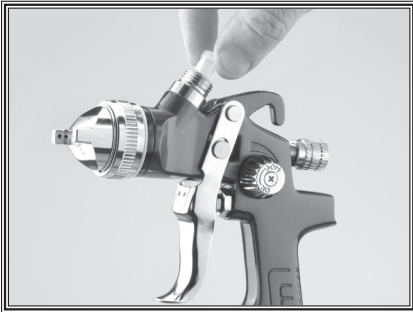

Figure 6. Installing filter.
1. Insert the filter into the gun body (see Figure 6).